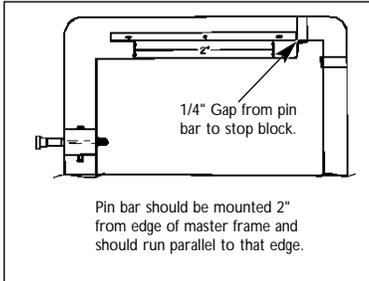

Figure 2
In order to set up a layout table for registering films, you must first attach one (1) Pin Bar to the exposure Unit Master Frame as a reference for your film positioning. The dimensions shown are for M&R supplied Pin Bars, but can be used as a guide if you are currently using pin registered films. (See Fig. 2)